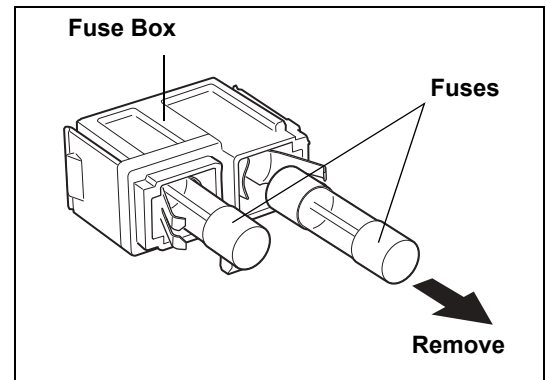

Figure 6.6
- 5 **Inspect the fuses, and remove and replace any fuse that has blown with a supplied spare fuse. (Refer to Figure 6.6.)**